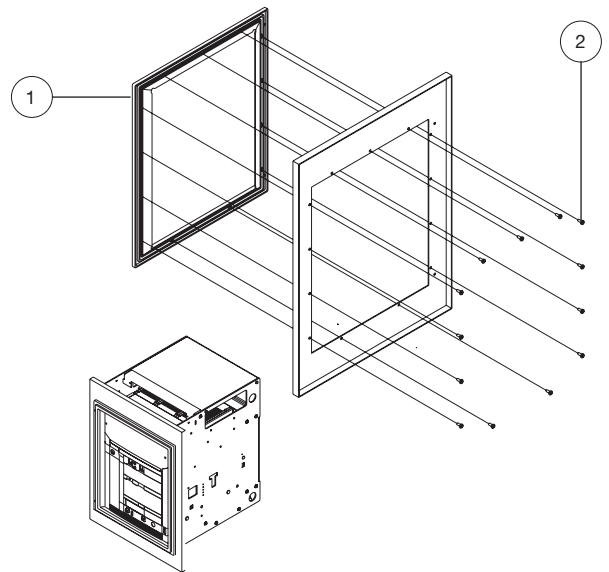

Fig. 13
4.4. Installation of the flange on the compartment door (Fig. 13)
- Attach the flange (1) on the front of the compartment door, fixing it from the inside by means of the self-tapping screws (2).